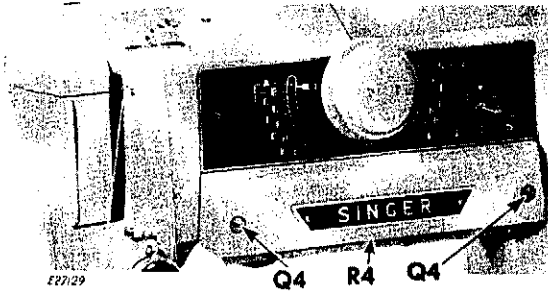

Fig. 302. Lamp Shade
1. Remove two screws **Q4** and lamp shade **R4**, **Fig. 302**.
8. Replace lamp shade **R4** and fasten with two screws **Q4**, **Fig. 302**.